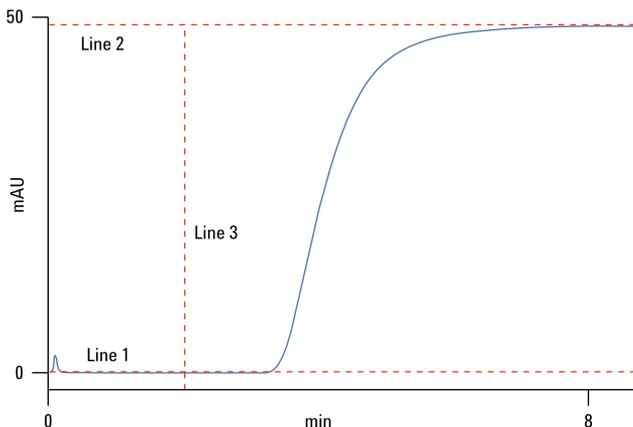

Figure 31. Calculating dwell (delay) volumes, step two
3. Vertical line at 2.0 minutes. Your image should look like Figure 31.